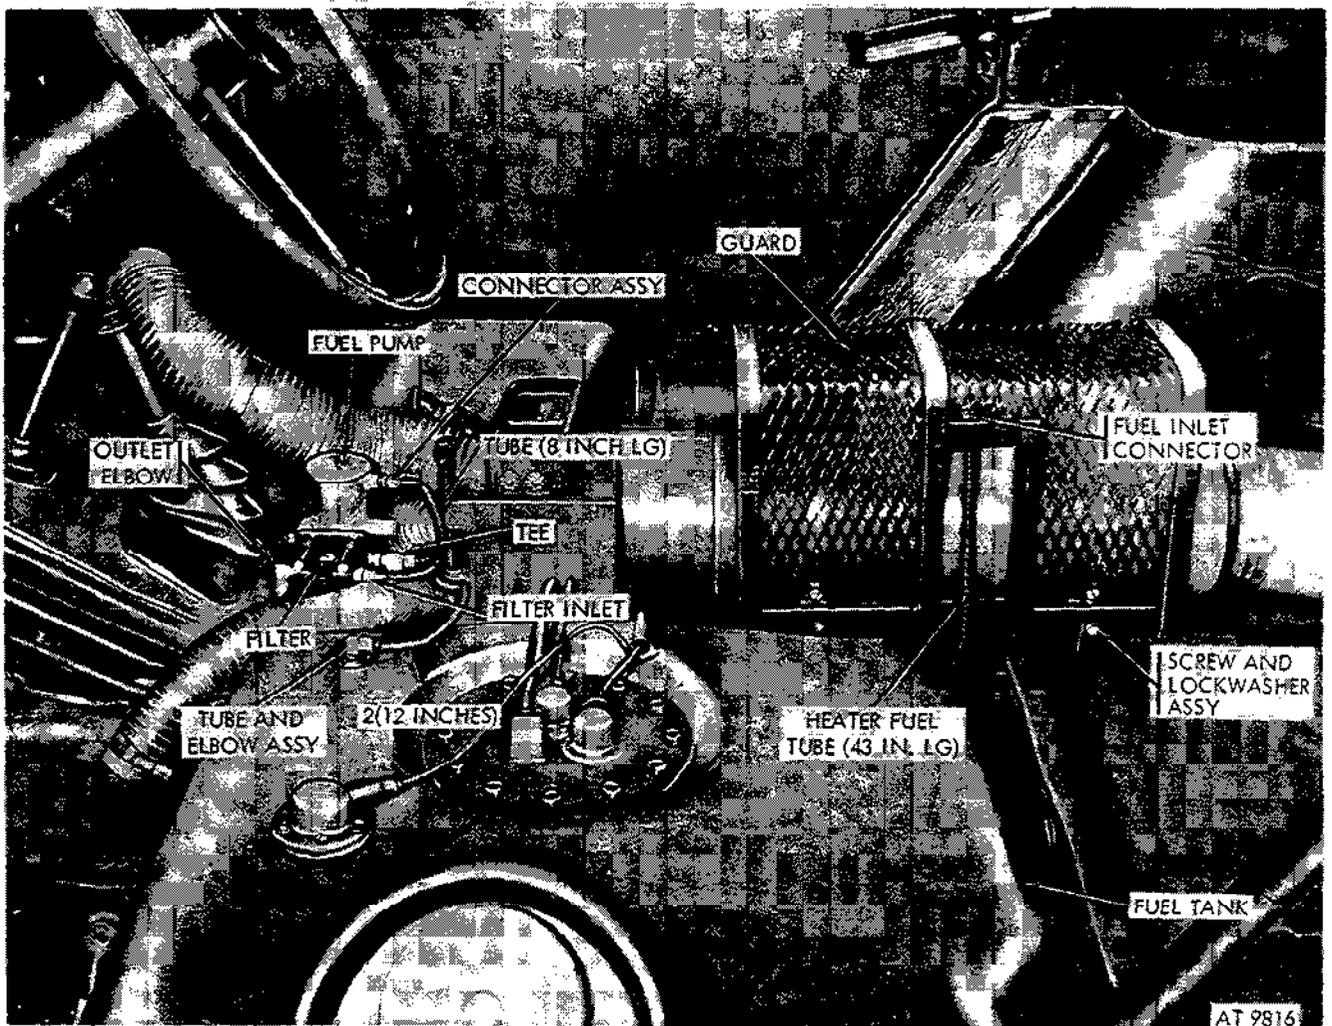
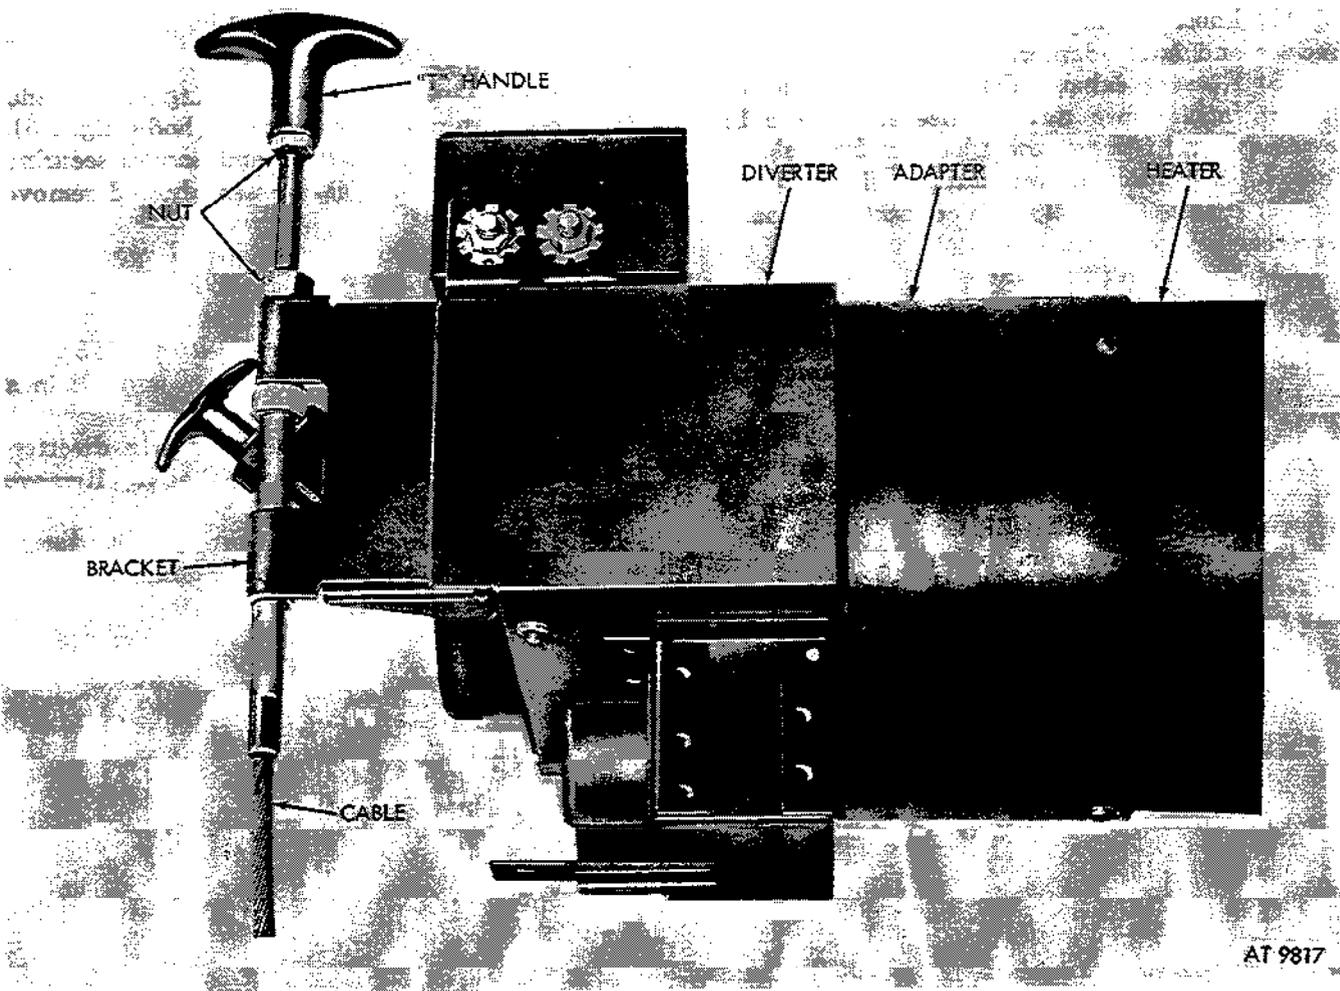
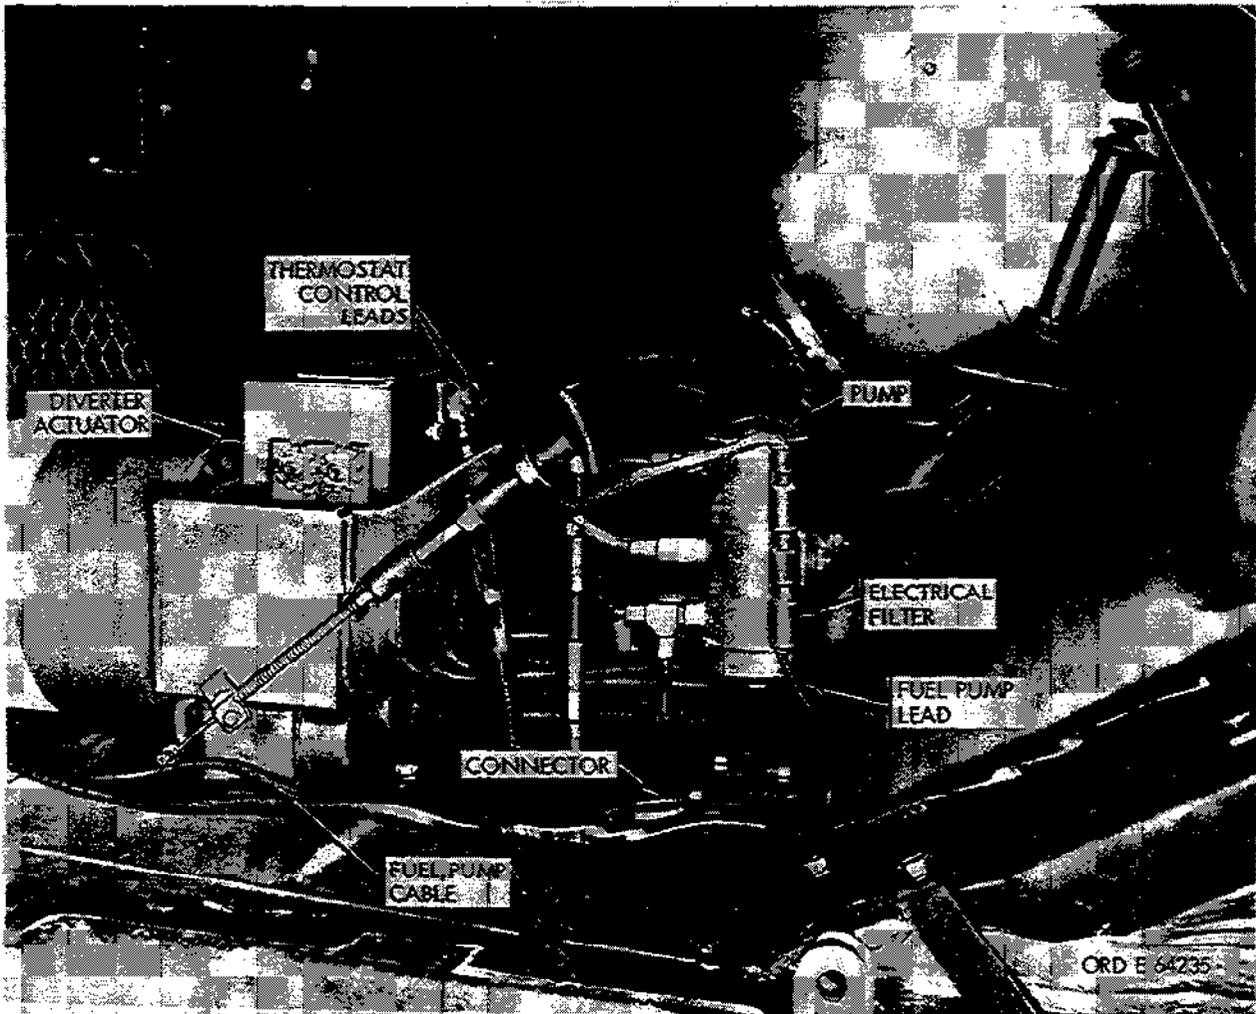

Figure 3-5. Fuel pump filter & fuel lines installation.
Figure 3-6. Exhaust diverter control handle removal.
Figure 3-9. Fuel pump cable and connector.
damper permitting heated air to again flow to the batteries. Perform test by removing battery compartment and battery box covers after the damper door has closed. This will allow the thermostat to cool more rapidly causing the actuator to open the damper. If the damper opens when it should close, reverse the thermostat lead wire connections at the terminal strip of the actuator (fig. 3-9). Repeat test.
(1) Remove four heater guard retaining screws. Remove guard (fig. 3-5).
(2) Loosen clamps retaining hoses to heater diverter and inlet adapter.
(3) Remove exhaust diverter control handle, locknut, and upper nut on sleeve. Slide cable downward and remove lower locknut from sleeve. Remove sleeve from lower bracket (fig. 3-6).
(7) At terminal board, mark one of the thermostat control leads (fig. 3-9), and the respective terminal for identification. Remove both leads from terminals (fig. 3-9).
(8) Loosen nuts from exhaust diverter studs located under heater to relieve gasket pressure on heater exhaust pipe.
(9) Lift heater from mounting pads.
(10) Place chalk mark on heater body, adapter and diverter-actuator to coordinate position of each at assembly (fig. 3-6).
(11) Remove four screws securing adapter and diverter-actuator assembly to heater body (fig. 3-6).
(12) Remove three nuts and screws securing adapter to diverter-actuator assembly and remove adapter (fig. 3-6).
a. Removal. Refer to figure 3-5.
- (1) Disconnect upper fuel line from fuel pump.
- (2) Disconnect both fuel lines from tee at bottom of fuel pump.
- (3) Remove tee from fuel pump.
- (4) Disconnect cable connector at fuel pump (fig. 3-9).
- (5) Remove mounting nuts, washers, and screws. Remove pump.
b. Installation. Reverse procedure shown in (5) through (1), *a* above.
a. *Removal.* Refer to figure 3-5.
(1) Disconnect both fuel lines from fuel filter assembly.
(2) Remove two mounting screws.
(3) Remove elbow from fuel outlet.
b. *Installation.* Reverse procedure shown in (3) through (1) of a above.
a. Removal (Heater Assembly 870193) (fig. 3-9).
(1) Loosen both hose clamps and remove defroster hose and battery box hose from diverter assembly.
(2) Remove exhaust diverter control handle (fig. 3-6).
(3) Mark one battery box thermostat lead wire and its respective terminal. Disconnect both lead wires from actuator terminal strip.
(4) Remove four screws securing diverter adapter to heater body. Remove diverter and adapter.
(5) Remove three screws, washers, and nuts securing adapter to diverter.
b. Removal (Heater Assembly 10920608). Refer to figure 3-9.
(1) Perform (1) through (3) above.